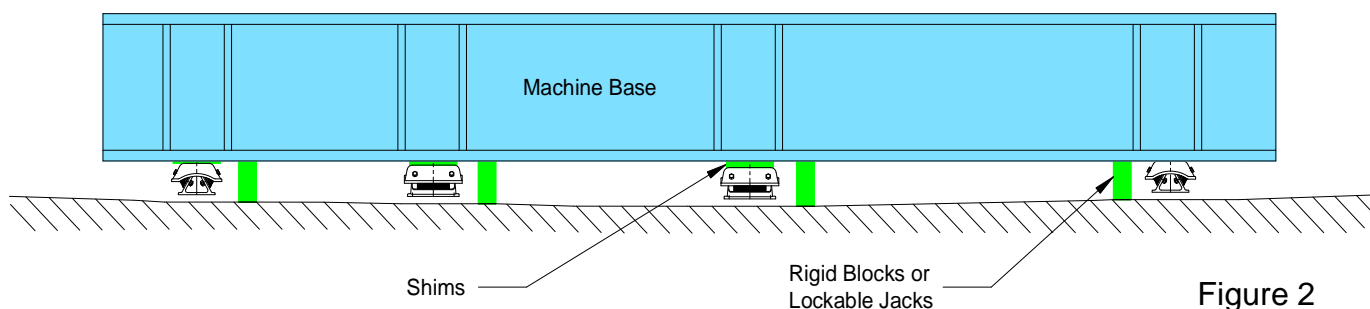

Figure 2
8. Re-fit the mounts to the equipment with shims if required using the M16 upper fixing bolts. These bolts are not to be tightened at this stage. See Figure 2 below.